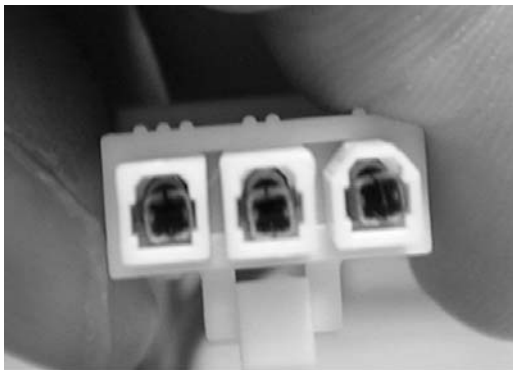

Figure 2: Example – Undamaged Connector
7. Inspect the terminals of the white line module connector for signs of damage (refer to Figures 2 and 3).